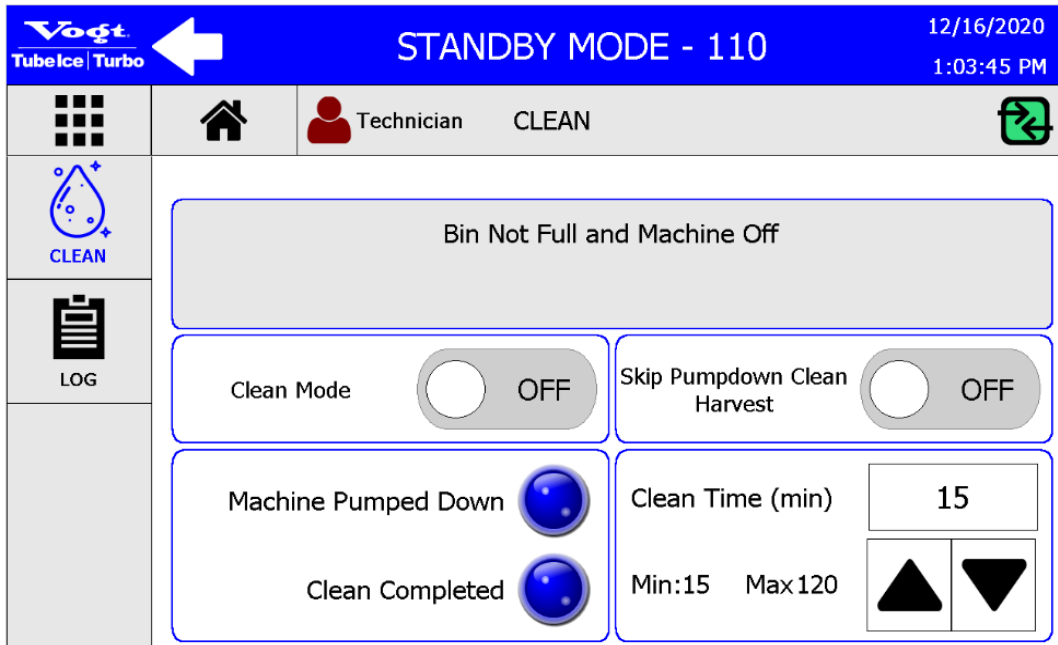

Figure 56: CLEAN Screen – Clean Completed
11. When the machine has completed a cleaning cycle, the icon next to **Clean Completed** will turn blue and the machine will automatically turn off the **Clean Mode**. See Figure 56. Repeat cleaning if necessary.